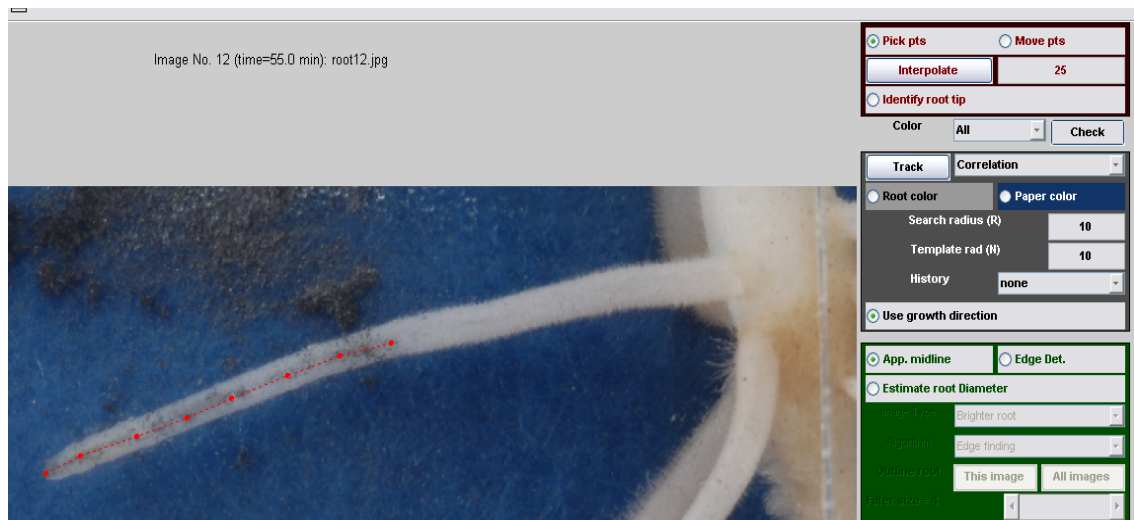

Figure 6
12. Now click the “Pick pts” button on the top right corner and click on the image for selecting marker points. Figure 6 is showing picked points in red in image no. 12 from the Example folder. Make sure that you have clicked points either from the root tip or from the base. When you are done selecting points, click right mouse button to stop. You can move any point on the root by clicking “Move pts” and then click and drag the point of your choice. However you cannot remove a particular point.